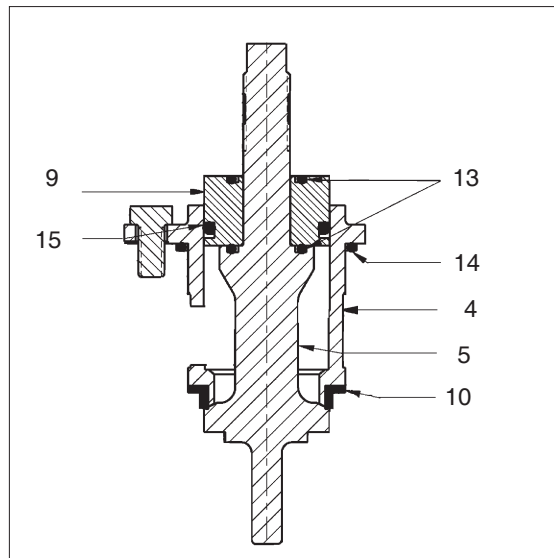

Figure 1: Assembled ITA,
5. The Inner Trim is removed and replaced back in the body (1) as an assemblage of parts. The **Inner Trim Assembly**, hereinafter called **ITA**, consists of following parts: (See Figure 1)
1. See Figure 1 for details:
- a. While holding the cage (4) pull the valve plug (5) downwards and through of the guide bearing (9) and out the bottom of the cage.
- b. Remove the guide bearing (9) from the upper end of the cage (4).
- c. Remove o-ring middle stem seal (13) from guide bearing (9).